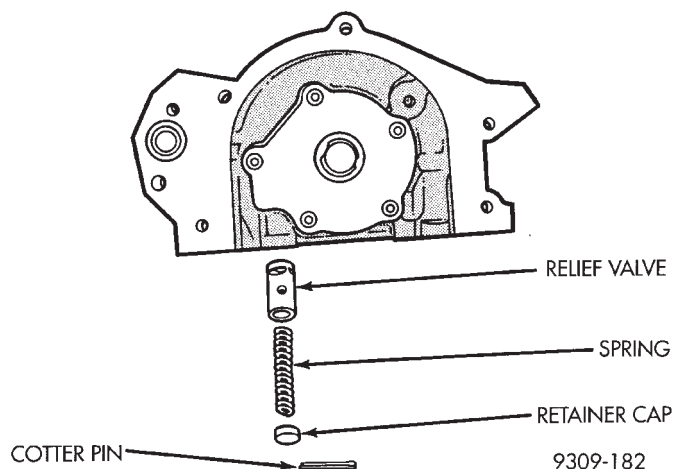

Fig. 103 Oil Pressure Relief Valve
(3) Clamp screw into a vise and while supporting oil pump body, remove cap by tapping oil pump body using a soft hammer. Discard retainer cap and remove spring and relief valve (Fig. 103).